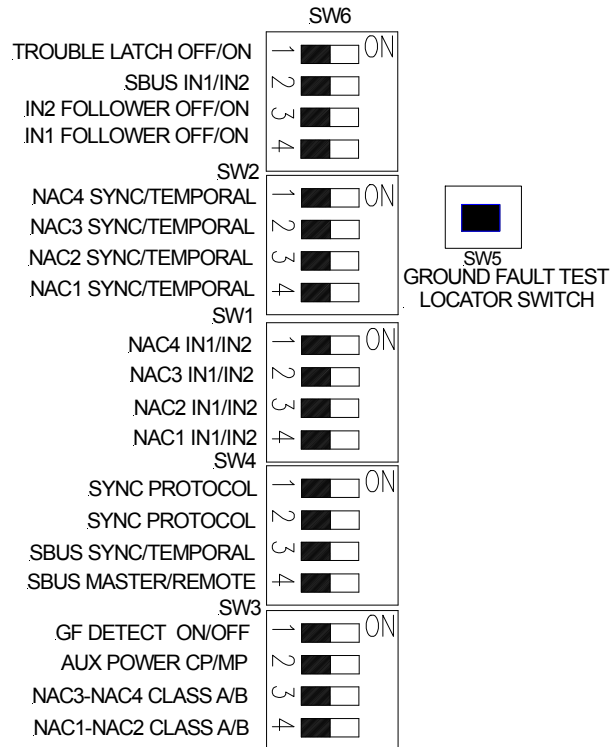

Figure 7: Control PC Board DIP Switches
2. See Figure 7 for DIP switch locations and Table 3 for DIP Switch Selection and DIP Switch Settings